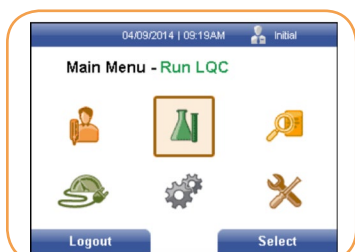

FIGURE 101
6. Using the [→] or [←] keys, select the Liquid Control icon from the *Main Menu* screen (Figure 101).